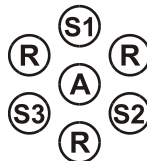

Figure 1.
Antigen (A) is placed in the center well with a micropipettor set at 50 µl. Fifty microliters of reference positive control serum (R) are placed in wells on each side of the sample(s) to be tested (Figure 1). This arrangement provides a positive control line on each side of the test serum, thus facilitating accurate determination of lines of identity. A total of three samples can be tested in each pattern, again using 50 µl for each well. The wells are filled level with the agar surface, leaving no meniscus. Serum or antigen must not run on top of the agar. Allow the plates to set a few minutes before moving to reduce the possibility of spillage. Plates are incubated at room temperature (20-25°C) in a closed humid chamber. If room temperature is above 25°C or below 20°C, a 22°C incubator should be used.